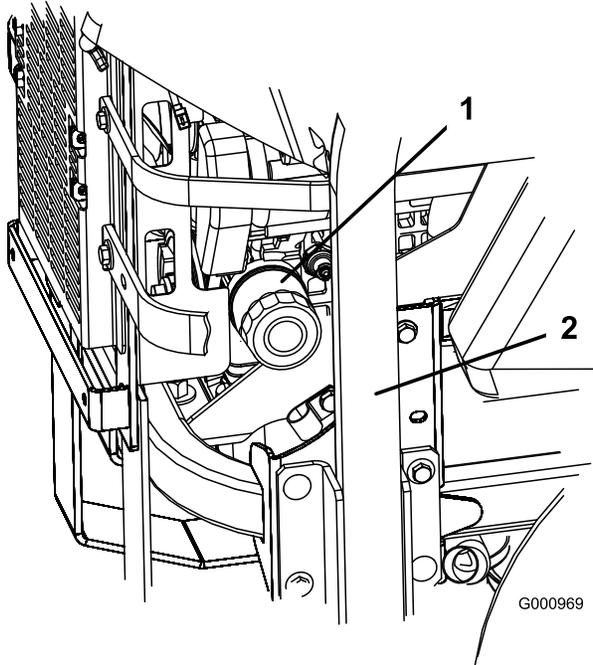
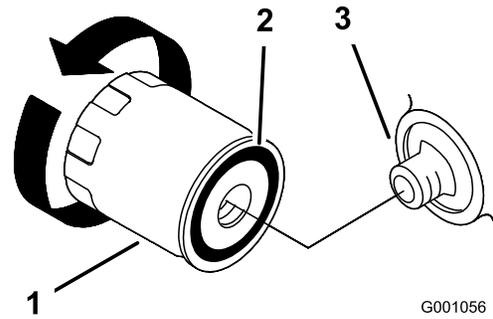

Figure 44
Figure 45
2. Turn the filter counterclockwise to remove it (Figure 44 and Figure 45).